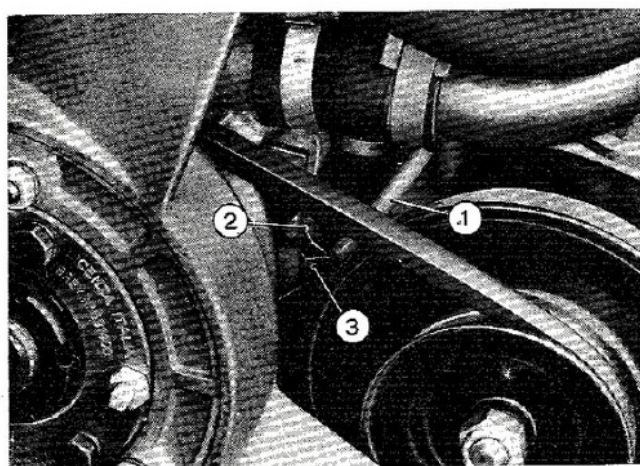
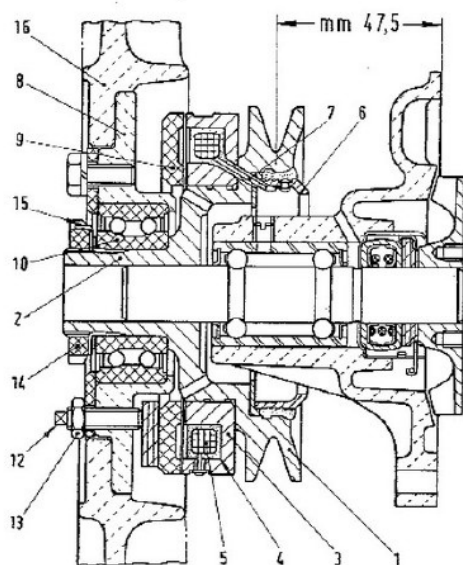

Fig. 56. - Detail of electrical connection between thermostatic switch, carbon contact and slip ring.
Fig. 57.
shaft and with the seats designed to receive the electromagnet yoke (3, fig. 57) and slip ring (6). The electromagnet yoke (3) is made of magnetic
- 2) **Fan-hub unit**, including the hub (2, fig. 57) on which the fan (16) and the electromagnet armature (9) are fixed.
- slacken the locknuts (13, fig. 57) of adjustment screws (12);
- turn in or out screws (12), as required, measuring each time the air gap with a feeler gauge near the screw used for the correction;
- after adjustment, tighten nuts (13) of screws (12).
- wipe accurately slip ring (6, fig. 57) with a clean cloth;
- unhook spring fastener (2, fig. 56), pull out brush holder (18, fig. 59) and check wear and contact conditions of carbon (17) and of its pressure spring; make sure the carbon contact slides freely in its seat. Replace worn parts as required; .
- upon reassembly, make sure spring fastener (2, fig. 56) exerts sufficient pressure.
If after joining the wires, the fan does not engage, the trouble may be due to failure of the lead (7, fig. 57) connecting the slip ring to the coil; also in this case, continuous operation of fan may be ensured — **temporarily** — by proceeding as described under para. 2).
To replace pulley (1, fig. 57) and electromagnet (5), proceed as follows:
- Free the spring fastener of brush holder (18) and take off the holder.
- Straighten the lock plate (15, fig. 57) and using wrench **A. 50090**, remove the slotted ring (14) locking the fan support bearing (10).
- Pull out fan assembly (16) with hub (2), electromagnet armature (9) and bearing (10).
- With the proper puller, extract the electromagnet-pulley assembly (1 and 3, fig. 57) from water pump bearing shaft.
**pump cover seating plane is 47,5 mm (1.87") (fig. 57).**
- Temporarily fit the brush holder (18, fig. 57) into its seat and check, by turning the pulley, that brush (17) seats evenly all around slip ring (6).
- With a press, drive the pulley (1, fig. 57), complete with electromagnet, onto the pump bearing shaft. The two parts must be perfectly co-axial and the specified pinch fit for a correct assembly is 0,012 to 0,06 mm (.0005" to .0024"). The parts must be so assembled that the **distance between pulley groove centerline and water**
- On pulley hub (2, fig. 57) fit fan (16) complete with its hub (8), electromagnet armature (9), bearing (10) and lock plate (15); using wrench **A. 50090** lock the bearing by slotted ring (14) and secure in place by suitably bending the lock plate.
Next, insert brush holder (18, fig. 57) in its seat and secure in place with the spring fastener (2, figs. 56 and 61).